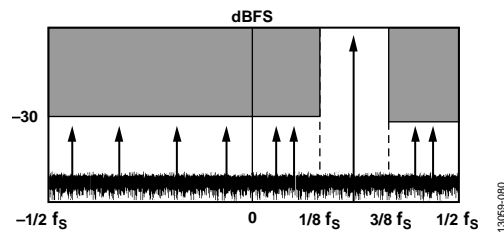
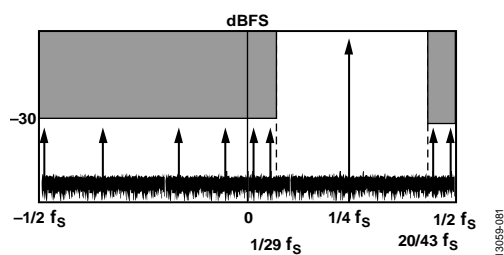

Figure 82. 25% VDR Bandwidth, Complex Mode
Figure 83. 43% VDR Bandwidth, Complex Mode
The complex mode of VDR works with selectable bandwidths of 25% of the sample rate (50% of the Nyquist band) and 43% of the sample rate (86% of the Nyquist band). Figure 82 and Figure 83 show the frequency zones for VDR in the complex mode. When operating VDR in complex mode, place in-phase (I) input signal data in Channel A and place quadrature (Q) signal data in Channel B.
Figure 82 shows the frequency zones for the 25% bandwidth VDR mode with a center frequency of $f_s/4$ (tuning word = 0x04). The frequency zones where the amplitude may not exceed –30 dBFS are the upper and lower portions of the Nyquist band extending into the complex domain.
Table 33 and Table 34 show the tuning words and frequency values for the 43% complex mode. Table 33 shows the relative frequency values, and Table 34 shows the absolute frequency values based on a sample rate of 491.52 MSPS. Figure 83 shows the frequency zones for the 43% BW VDR mode with a center frequency (f_{VDR}) of $f_s/4$ (tuning word = 0x04). The frequency zones where the amplitude may not exceed -30 dBFS are the upper and lower portions of the Nyquist band extending into the complex domain.